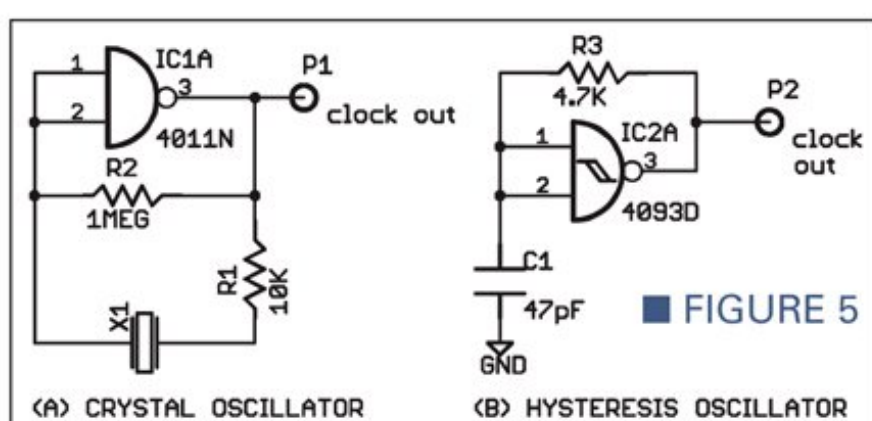

FIGURE 5
A Figure 5 (A) is a crystal oscillator. I used a CD4011 quad two-input NAND but any CMOS inverting gate or buffer should work. R1 limits the crystal current; too much drive could damage it. R2 provides DC bias to keep the gate input in the linear range. I breadboarded the circuit and find that it works okay at nine volts VCC and above, but the frequency is way low at five
volts. Perhaps HCMOS would be better at five volts. If you don't need crystal accuracy, the hysteresis oscillator using a Schmitt-trigger gate will be cheaper; see Figure 5 (B). The hysteresis is not well controlled so you will have to tweak it to get the frequency right. Also, the frequency varies with supply voltage. I breadboarded the circuit and got 2 MHz with 4.7K and 47 pF.